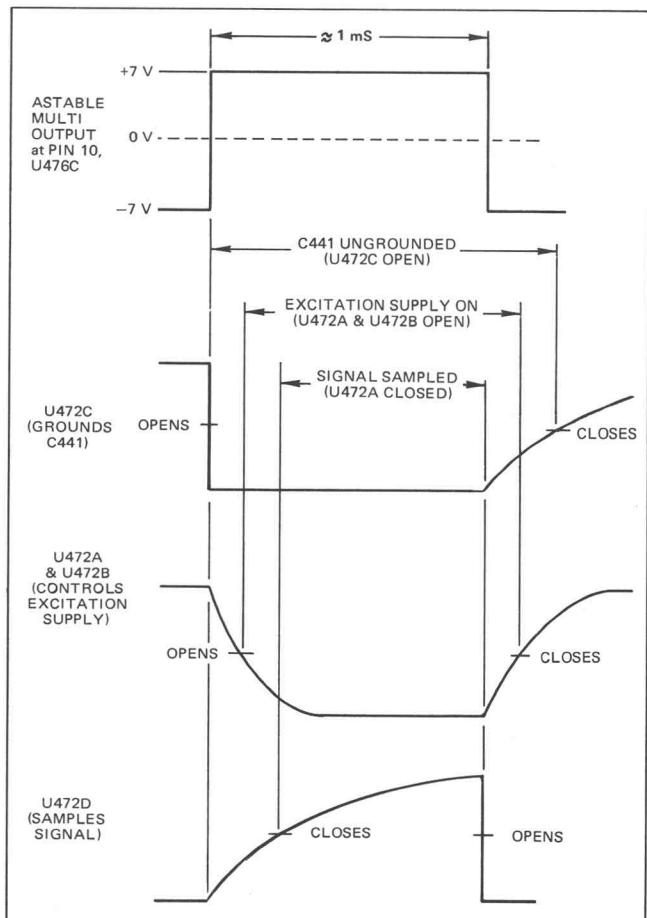

Fig. 3-6. Astable Multi and transmission gate time relationships.
**CHOPPING EVENT SEQUENCES.** Fig. 3-6 shows the time relationships between the astable-multivibrator output and the transmission gates U472A, U472B, U472C and U472D.